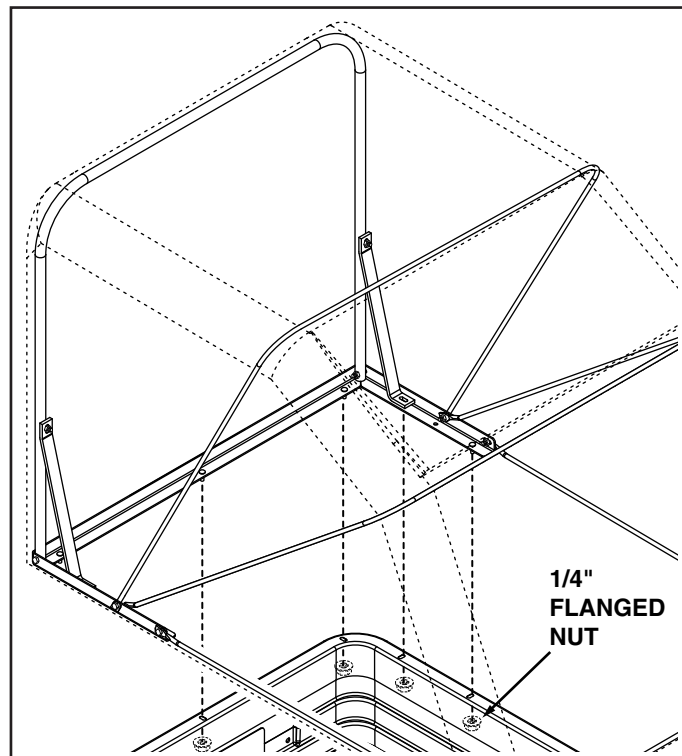

FIGURE 12
- Place the assembled cart cover on top of the cart, aligning the bolts in the cart cover with the holes in the cart. Assemble seven 1/4" flanged nuts onto the bolts. See figure 12.